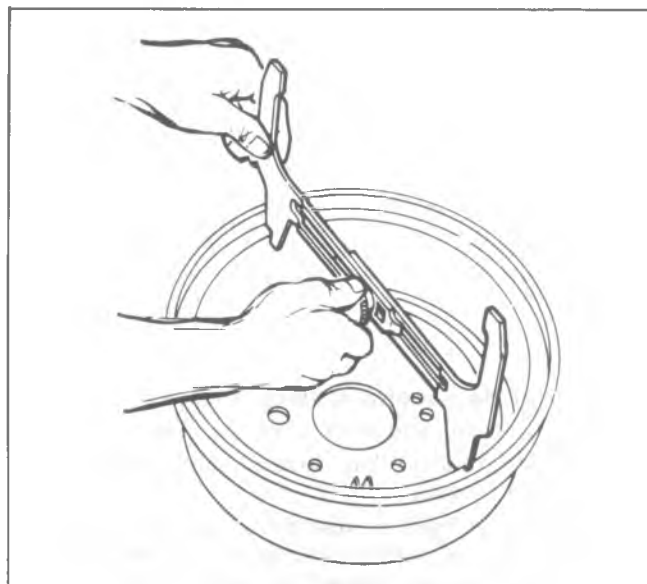
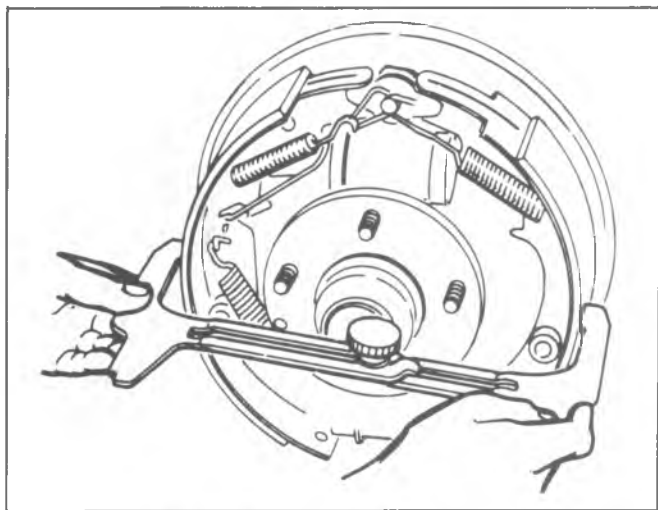

Fig. 5-45—Measuring Brake Drum I.D.
Fig. 5-46—Adjusting Brake Shoes
8. Measure brake drum I.D. using inside caliper portion of Tool J-21177 (fig. 5-45). Adjust brake shoes to dimension obtained on outside caliper portion of Tool J-21177 (fig. 5-46).
9. Measure brake drum I.D. using inside caliper portion of Tool J-21177. Adjust brake shoes to dimension obtained on outside caliper portion of Tool J-21177 (figs. 5-45 and 5-46).